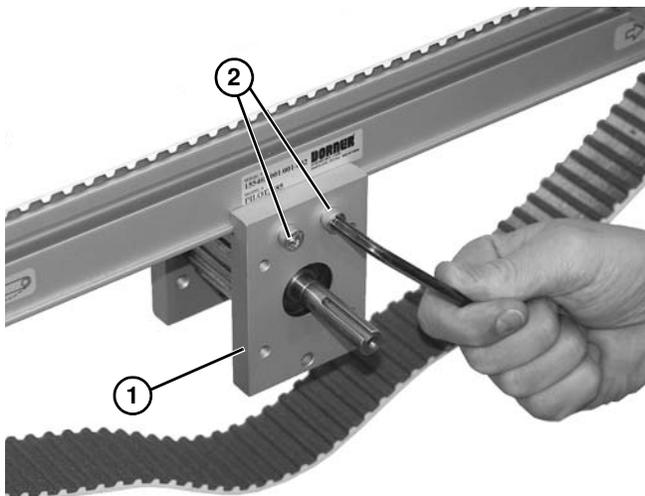

Figure 89
8. Secure center spindle assembly (Figure 89, item 1) with two screws (Figure 89, item 2) on each side of mounting block. Do not tighten.
11. Tighten screws (Figure 89, item 2) to 60 in-lb (7 Nm).